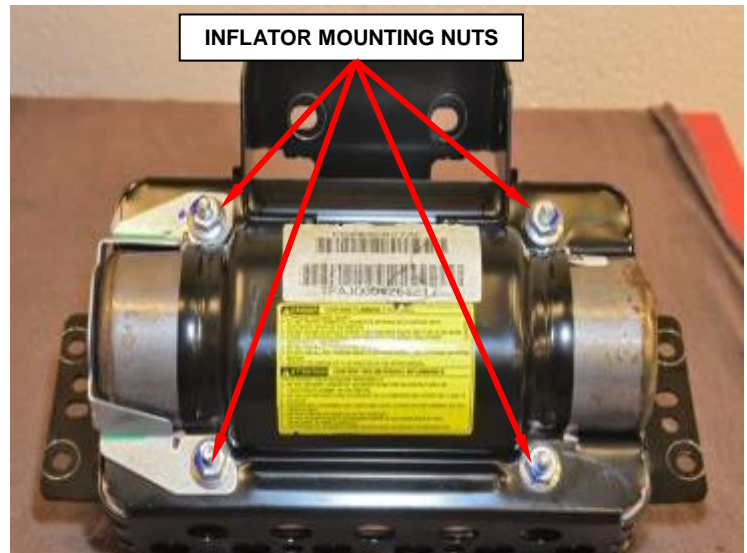

Figure 40 – Mounting Nuts
- b. Remove and **discard** the four inflator mounting nuts (Figure 40).
- n. Install the four **NEW** mounting nuts to the airbag housing and tighten to 53 in. lbs. (6 N·m) (Figure 40).